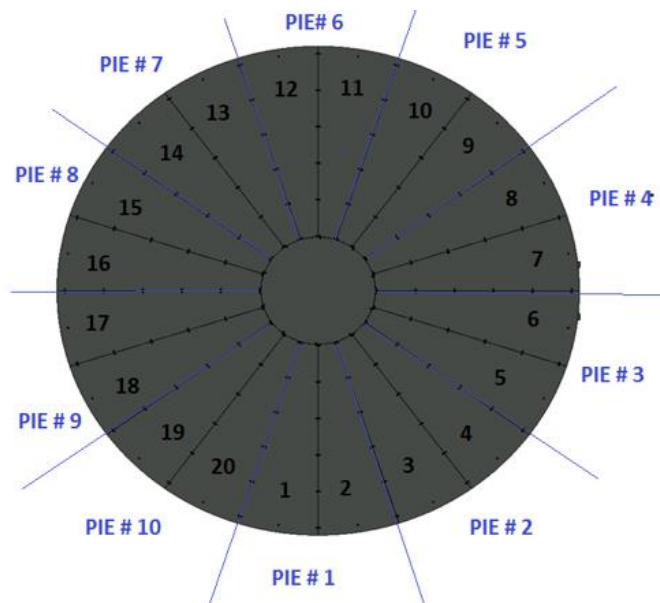

Figure 12: Top panel layout diagram
Step 9: Attach the motor and drive unit to the tracks: Position the Turntable that gives clear access to the tabs of the motor track (item 7) Slide the motor mount arms beneath the turntable and align the 8 holes with the track. Install 8 of the M8x12mm button head cap screws and torque them to 15 ft-lb.
Step 10: The top panels can now be installed beginning with the center panel. Align the top panel holes with the corresponding threaded holes located on the pie piece. Fasten with the M6x16mm screws (H10) but leave loose until all panels are placed. With the center placed and secured loosely, begin placing the pie panels. ***The pie panels are stamped on the underside, left hand side, numbered 1 through 20. Install the panels in numerical order, in a counterclockwise fashion. For example: Panel 1 and 2 should be on pie 1, and panel 3 and 4 should be on pie 2... etc (shown in figure 12).*** Fasten panels with the M6x 16mm screws and leave loose until all panels are in place. Once all panels have screws threaded, proceed to torque them down to 18 Ft-lb.